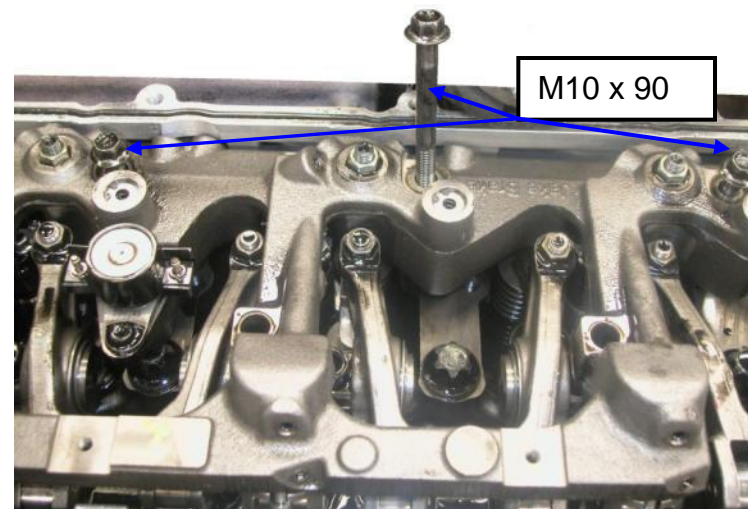

Fig 11
- Install the three M10 X 90mm bolts through the perimeter housing bolt holes. (See Fig 11)